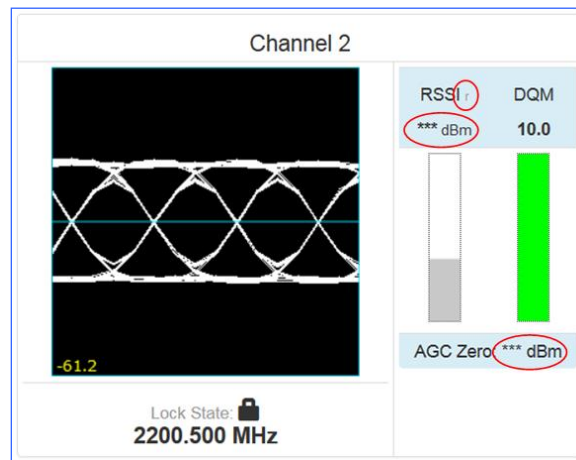

Figure 188: Signal Graph and Signal Indicators Windows, Zero AGC RSSI Display "Relative"
- "*** dBm" displayed (Figure 188) indicates AGC is not zeroed and the value is invalid